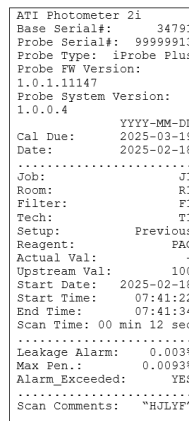

Figure 32. Output from thermal printer
Step 3. The output from the thermal printer is the same as the saved summary data of the save leak scan (Figure 32)